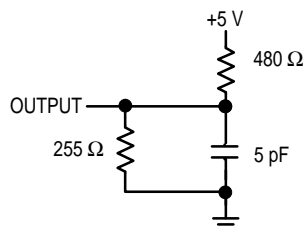

Figure 1B
5. Transition is measured $\pm 500 \text{ mV}$ from steady-state voltage with load of Figure 1B.
6. Transition is measured ± 500 mV from steady-state voltage with load of Figure 1B.